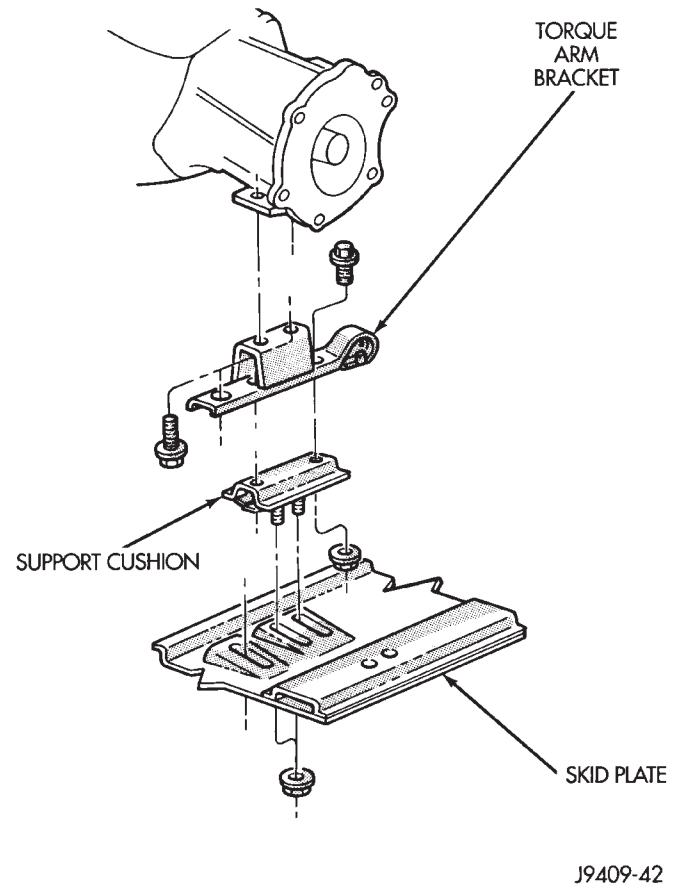

Fig. 12 Rear Mount—YJ Vehicles (Automatic Transmission)
(4) **AUTOMATIC TRANSMISSION (Fig. 12):**